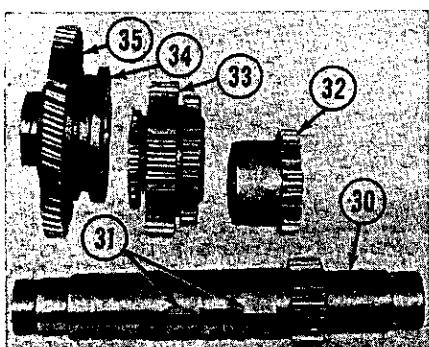

Fig. 111—Dismantled countershaft from tractor having dual plate clutch. Note the hollow shaft. Refer to Fig. 108 for legend.
Slide off constant mesh gear (35) and bushing (36). Gears (32 and 33) can now be pressed from shaft. See Fig. 111.